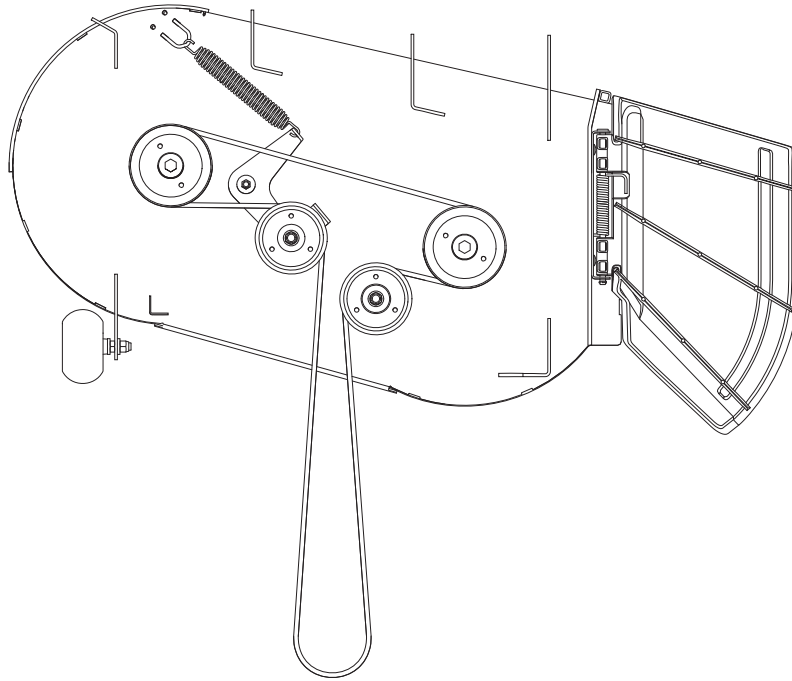

Figure 6-16
7. Route the new deck drive belt around the clutch pulley, spindle pulleys and stationary idler pulley. Make certain the belt is routed properly. Figure 6-16 & Figure 6-17